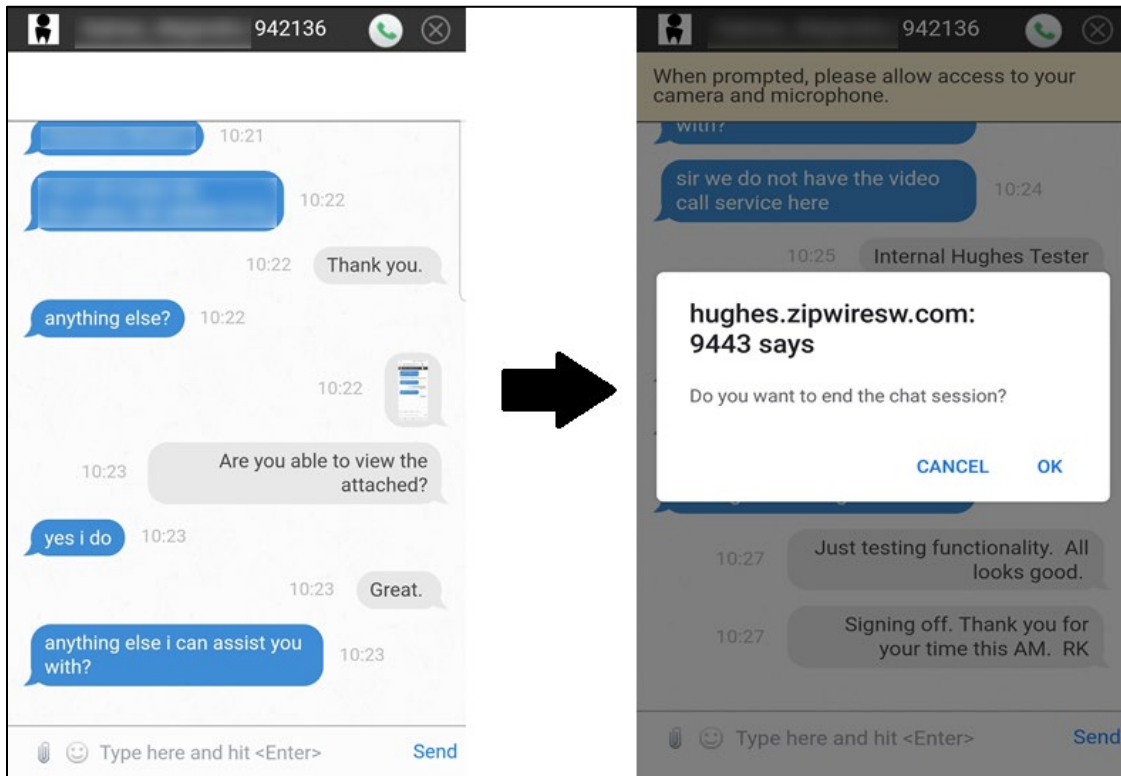

Figure 14: Closing the chat client
- When you are finished chatting with the agent, you can tap the **Exit** button (⊗) in the upper right-hand corner of the window, as shown in Figure 14. The chat client will ask you to verify that you want to end the chat session. Tap **OK** to proceed.